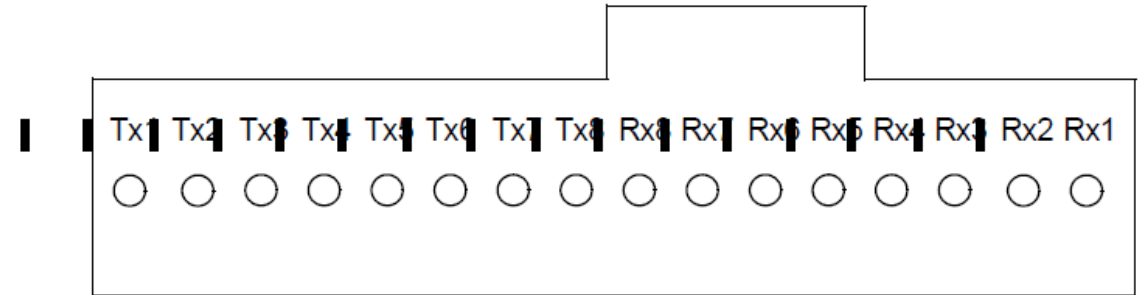

Figure 182-9—1.6TBASE-DR8 optical lane assignments
- **Note – Caption to Fig 182-9 is incorrect – it should be 1.6TBASE-DR8-2**